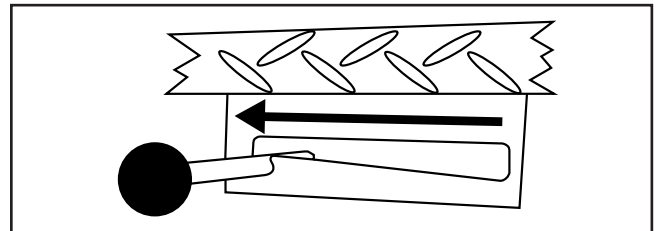

Figure 6. Safety lever to the left.
3. Move the safety lever to the left and down into the slot as shown in **Figure 6**, which will keep the locking plate from engaging the safety latches.